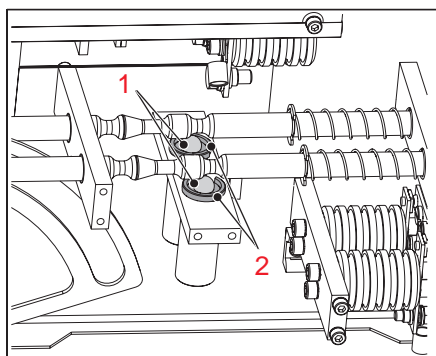

Figure 25
- If the jumping mechanism of the contact bridge only moves inertly and slowly in spite of the maintenance steps mentioned above having been performed, grease the balls (1) and the ball holders (2) with special grease BARRIERTA I SL/OX, see **Figure 25**.